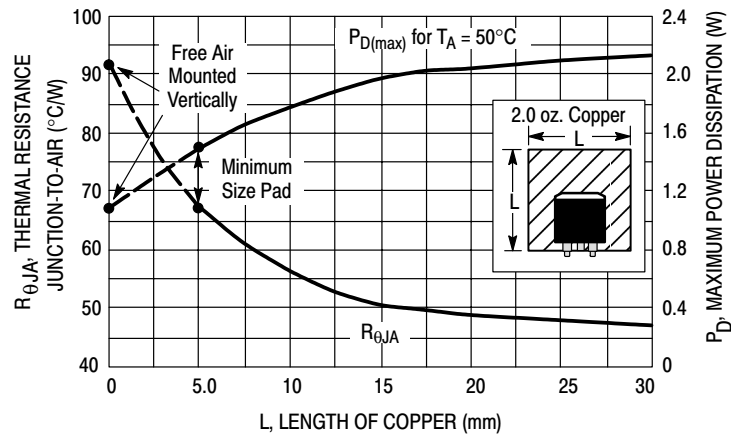

Figure 27. DPAK Thermal Resistance and Maximum Power Dissipation versus P.C.B. Copper Length
6. The Junction-to-Ambient Thermal Resistance is determined by PC board copper area per Figure 27.